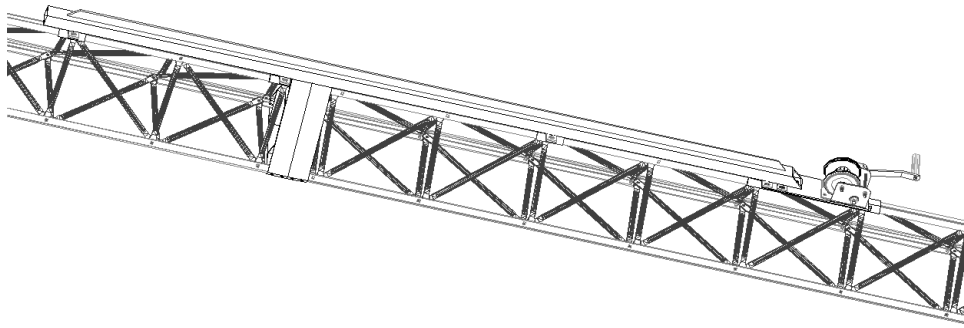

Figure 6 – Lever Pole Mounted on Tower Sections
8. Attach the lever pole (item 11) via the top two bracket tabs onto the middle tower section only using 3/8" x 1 1/4" hex bolts and hardware (items 23, 24, 25). Ensure that the holes in all three lever mounting brackets (items 7, 8) and the winch bracket (item 14) are aligned with the lever pole mounting tabs so it can be joined properly once the tower is standing. See Figure 6.